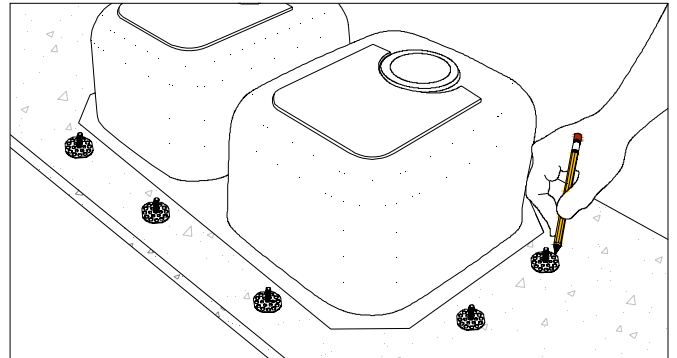

Figure 35A
- Locate sink clip bases around perimeter of sink flange and mark location with pencil. (FIG. 35A)